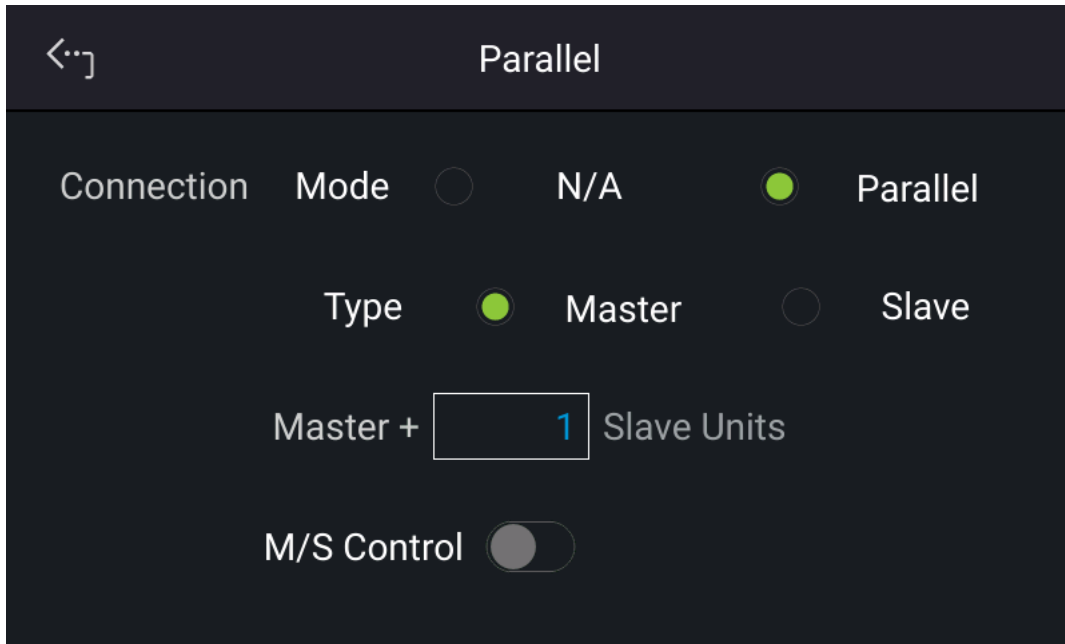

Figure 3-74
1. On the Menu page, tap “Configuration” → “Parallel” and the screen will appear as Figure 3-74.
1. When the parallel communication interface is installed, follow the steps described in the previous section to enter into the Serial & Parallel page as Figure 3-74 shows.
3. When paralleling two units set Master+ as shown in Figure 3-74.